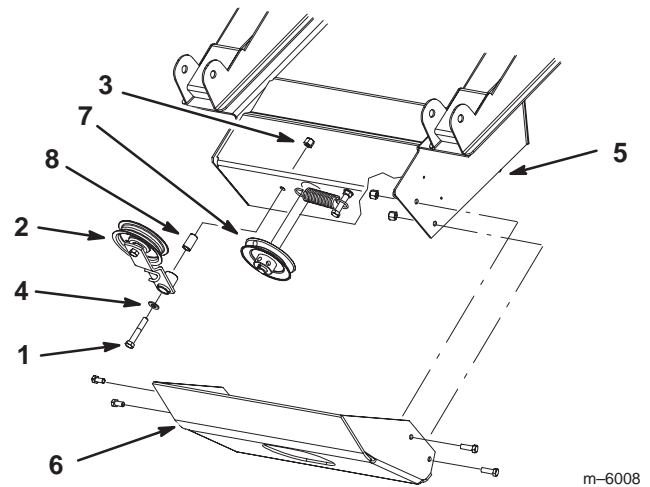

Figure 16
1. Remove the four bolts in the skid plate (Fig. 16).
2. Remove the skid plate (Fig. 16). This will make it easier to install the bagger belt.
2. Route the bagger belt onto the bagger pulley (Figures 16 and 18).
3. Remove the bolt, washer, spacer, and locknut from the tensioner pulley arm (Fig. 16).
4. Install the tensioner pulley arm to the bagger with the previously removed bolt, washer, spacer, and locknut (Fig. 16).
7. Install the skid plate (Fig. 16).